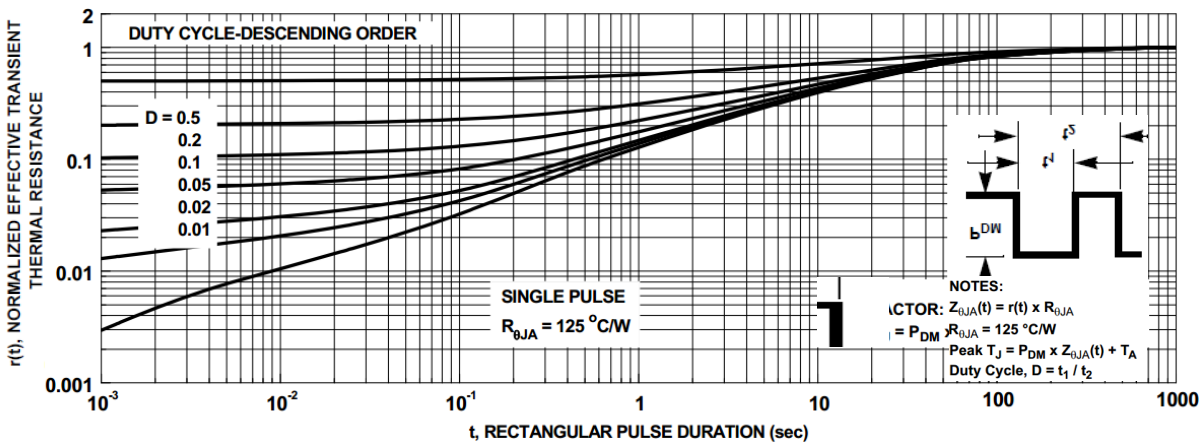

Figure 10. Junction-to-Ambient Transient Thermal Response Curve
The steady-state thermal resistance values are not enough to find a peak junction temperature in terms of pulse driven applications. Figure 10 provides the normalized effective transient thermal resistance, $r(t)$, as a function of the rectangular pulse duration at a given duty cycle. As the duty cycle and the pulse duration increase, the transient thermal impedance gets close to 1. This means the transient thermal impedance approaches steady-state resistance. It calculate the transient thermal impedance, $Z_{\theta JA}(t)$, which is used to estimate the junction temperature, T_J , resulting from a transient power dissipation by using Equations (6) and (7):
For example, when FDMS86101A is conducting during 1 ms out of the 2 ms period which is the 0.5 duty cycle, the $r(t)$ from Figure 10 is 0.5. The junction-to-ambient thermal resistance, $R_{\theta JA}$ on the minimum pad of 2 oz copper is $125^{\circ}\text{C}/\text{W}$ from Table 6. Then the $Z_{\theta JA}(t)$ of FDMS86101A mounted on the minimum pad of 2 oz copper is $62.5^{\circ}\text{C}/\text{W}$ by using Equation (6).